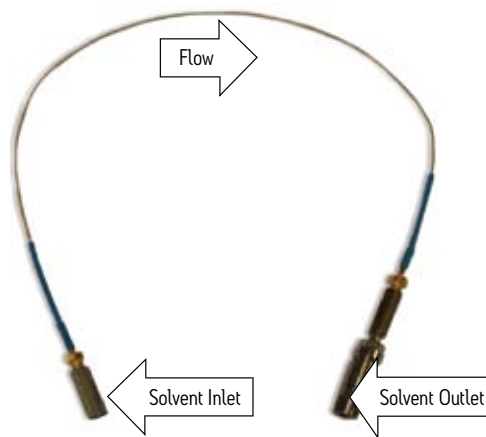

Figure 3: Column assembly after attaching the column to the pre-column tubing.
5. Connect the marked end (marked as solvent inlet) of the column tubing assembly to the solvent outlet of the ACQUITY UPLC® Column Heater (Figure 3).